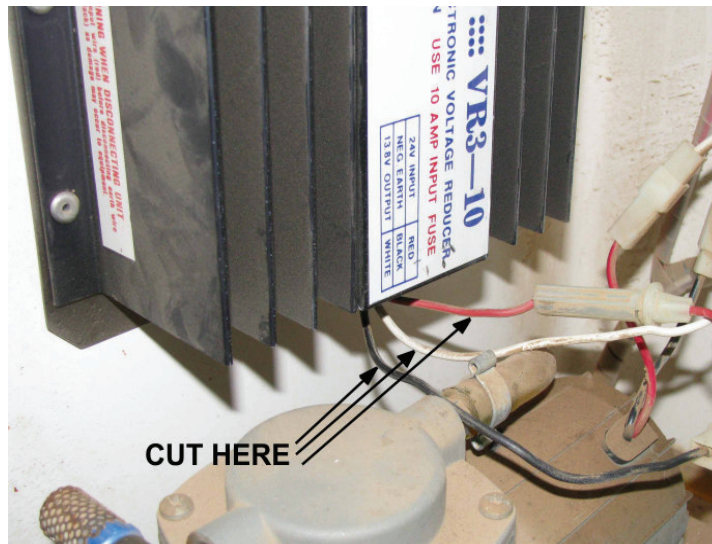

Figure 2 Cutting Wires
d. Cut the three wires (red, white and black) protruding from the base of the existing voltage converter as close to the base of the converter as possible, ensuring that the fuse in the red wire remains with the vehicle harness (Figure 2).